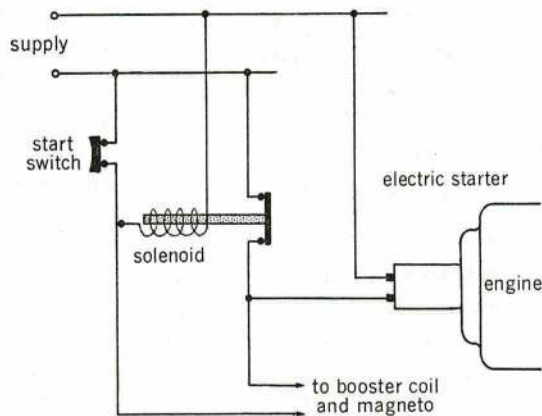

Fig 1.9.2 Electric starting system
8. The basic circuit of an electric starting system is illustrated at Fig 1.9.2. When the start switch is operated, the solenoid is energized and this connects the supply to the electric starter. All other necessary supplies (eg to magneto) are also completed, so that as the engine is rotated by the electric starter, the engine will 'fire' and start up.